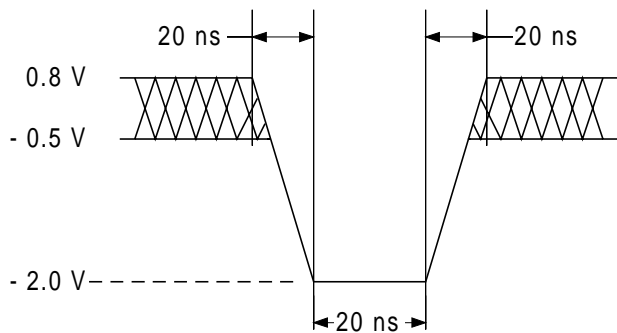
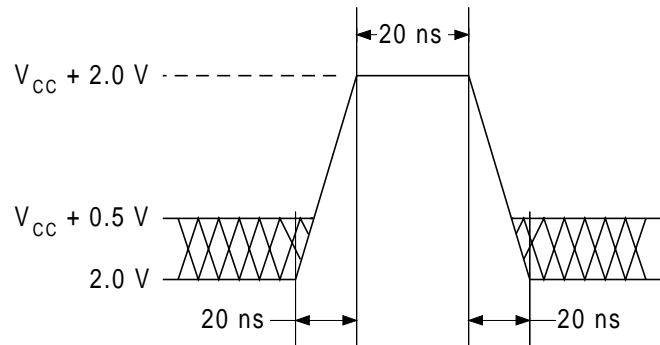

Figure 9. Maximum Undershoot Waveform
Figure 10. Maximum Overshoot Waveform
1. Minimum DC voltage on input or I/O pins is -0.5 V. During voltage transitions, input or I/O pins may undershoot V_{SS} to -2.0V for periods of up to 20 ns. See Figure 9. Maximum DC voltage on input or I/O pins is V_{CC} + 0.5 V. During voltage transitions, input or I/O pins may overshoot to V_{CC} +2.0 V for periods up to 20 ns. See Figure 10.
2. Minimum DC input voltage on pins A[9], OE#, and RESET# is -0.5 V. During voltage transitions, A[9], OE#, and RESET# may undershoot V_{SS} to -2.0 V for periods of up to 20 ns. See Figure 9. Maximum DC input voltage on pin A[9] is +12.5 V which may overshoot to 14.0 V for periods up to 20 ns.